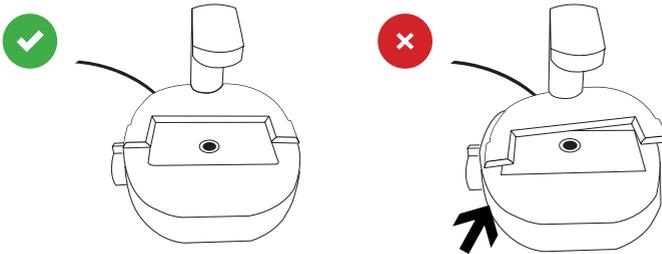

Figure 16. Correct adapter plate placement
- ▶ Ensure the adapter plate is correctly placed. If it is placed incorrectly, this can lead to false results (Figure 16).